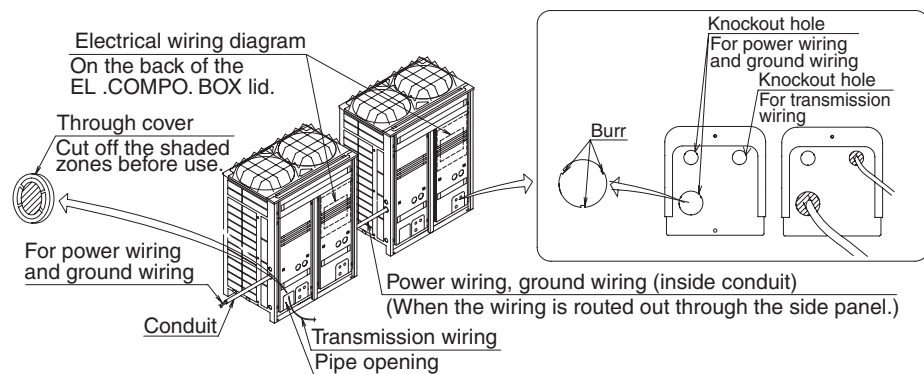

figure 20
- When passing wiring through the knock holes, remove burrs around the knock holes and protect the wiring with protective tape. (Refer to figure 20)
- If small animals might enter the unit, block off any gaps (hatching parts in figure 20) with material (field supply).